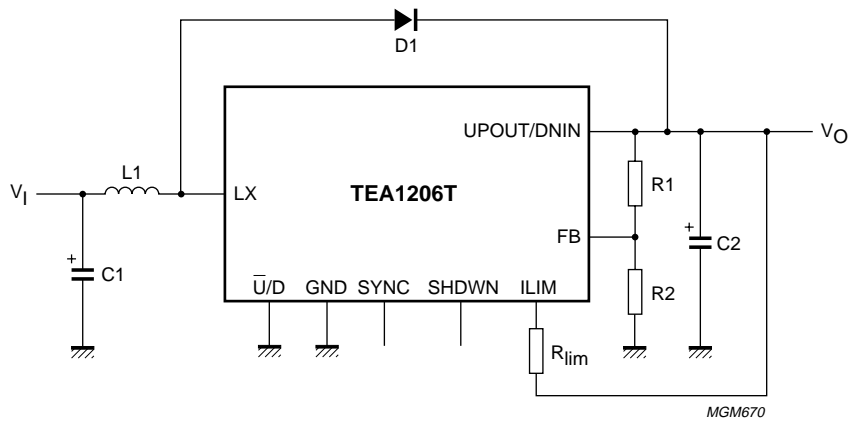

Fig.6 Complete application for upconversion.
- Upconversion (see Fig.6): the output voltage will exceed the high window limit if the input voltage is higher than this limit plus the voltage drop over the diode. In that case, the converter will stop switching and the external schottky diode will take over all current. The output voltage will be equal to  $V_i$  minus the diode voltage drop. The input voltage must not exceed 5.5 V. The current limit function is not active since all current flows through the external diode in this situation.